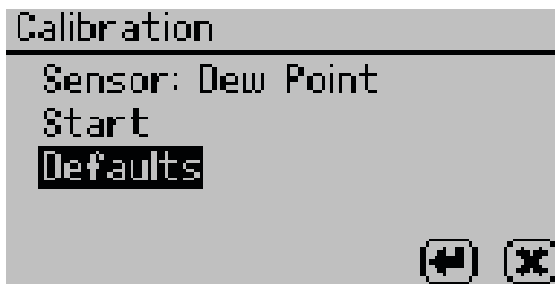

Figure 61 Calibration screen with Defaults selected
4. Select Defaults to access the Restore Factory Defaults routine (Figure 61).